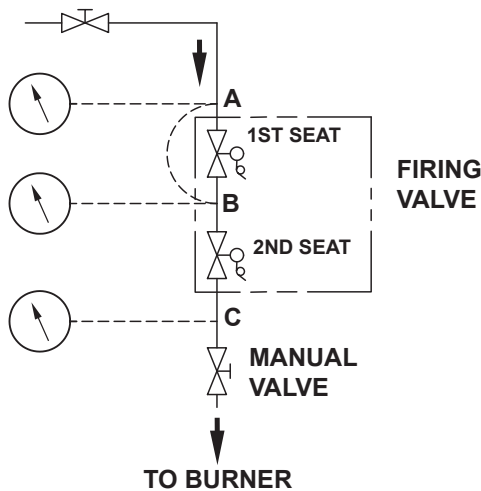

Figure 61. Leak Test Procedure
Test point C is a bleedle valve located downstream of both automatic gas valve seats and upstream of the manual valve. See **Figure 61**.
- a. Close downstream manual gas valve. See **Figure 61**. Turn power on.